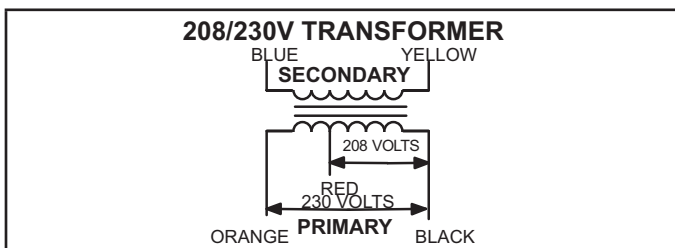

FIGURE 3
All use a single line voltage to 24VAC transformer mounted in the control box. Transformer supplies power to control circuits in the unit. The transformer is rated at 92 VA and is protected by a 6 amp circuit breaker (CB8). The 208/230 (Y) voltage transformers use primary voltage taps as shown in FIGURE 3, while 460 (G) and 575 (J) voltage transformers use a single primary voltage tap.
T43 is a single line voltage to 24VAC transformer that supplies power to control circuits. See unit diagram. T43 is mounted in the control box, is rated at 70VA, and is protected by a 3.5 amp circuit breaker (CB31). The 208/230 (Y) voltage transformers use primary voltage taps as shown in figure 3, while 460 (G) and 575 (J) voltage transformers use a single primary voltage tap.